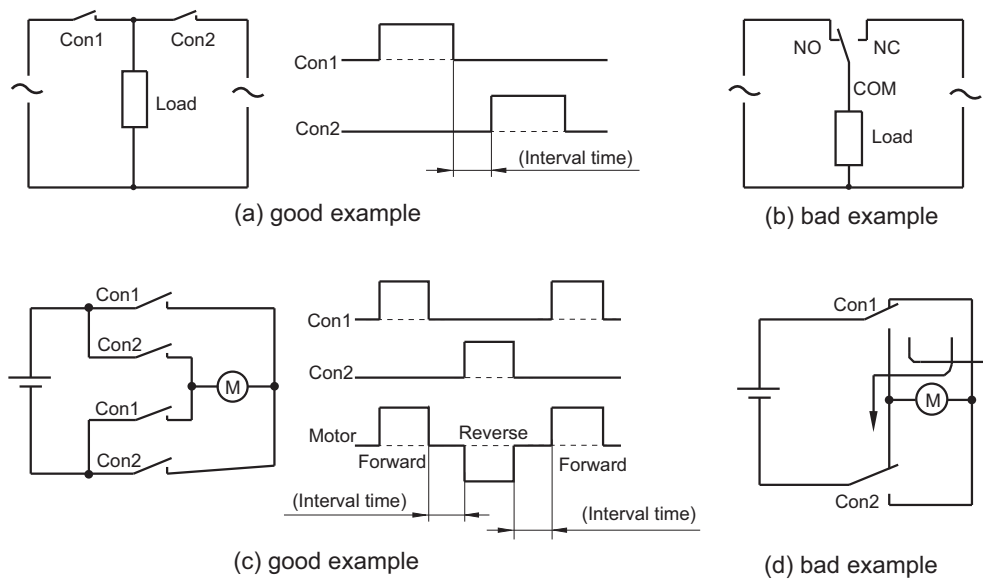

Figure 6
In the electrical circuit, the following points should be considered (seen in the figure 6)
- 1) Generally the gap between the contacts are small. The reason can probably be that the electrical arc between the contacts results in the short circuit. Please do not adopt the circuit shown in figure 6(b). The circuit shown in figure 6(a) is suggested to use and the certain interval can be set in the operation between Con1 and Con2.
- 3) Care should be taken that the two pairs of switching contacts are not used to build the forward circuit and the reverse circuit, as shown in figure 6(d). Suggest that the circuit shown in Figure in 6(c) is applied and the certain interval is set in the operation between Con1 and Con2.